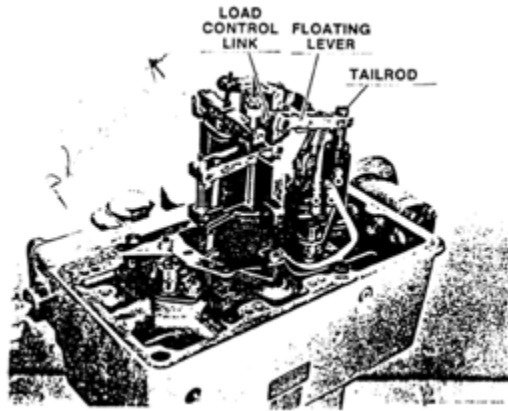

Figure 5-61. Floating Lever Connection
38. Attach linkage of fuel limiter, load control, and speed setting as shown in Figure 5-61.